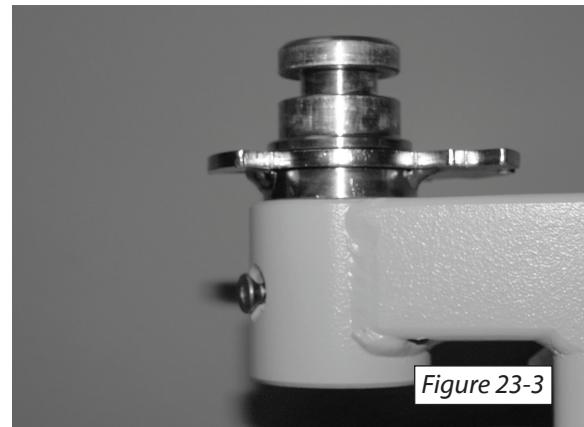

Figure 23-3
3. insert and tighten the flanged screws from step 1 through the chassis and into the rooster. *[Figure 23-3 & 23-4]*